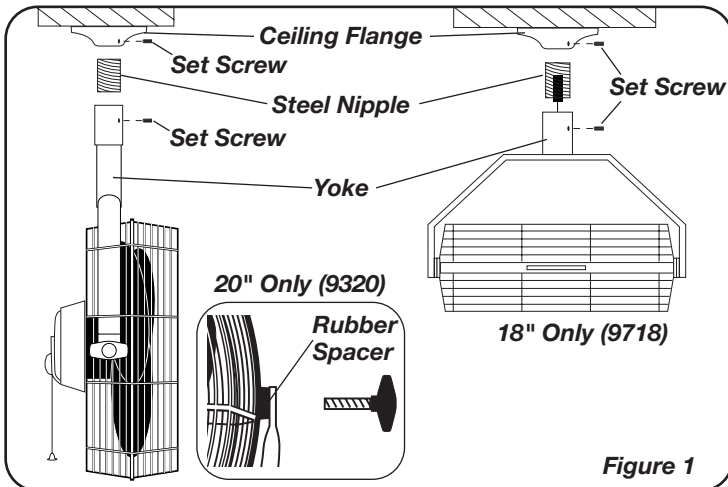

Figure 1
3. Apply (1) entire tube of Loctite #243 onto the first 2 threads on the end of the steel nipple.
8. Align Yoke with grill mounting threads. Loosely attach one Grill Knob and one Rubber Spacer to the Head Assembly. Attach the other Grill Knob and Rubber Spacer to the Head Assembly and FIRMLY tighten. Return to the first Grill Knob and FIRMLY tighten (Figure 1).